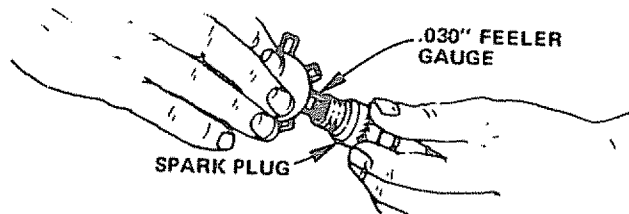

FIGURE 27
2. Reset the gap at .030" (Fig. 27). Order the part number listed in the Repair Parts Section of this Manual.